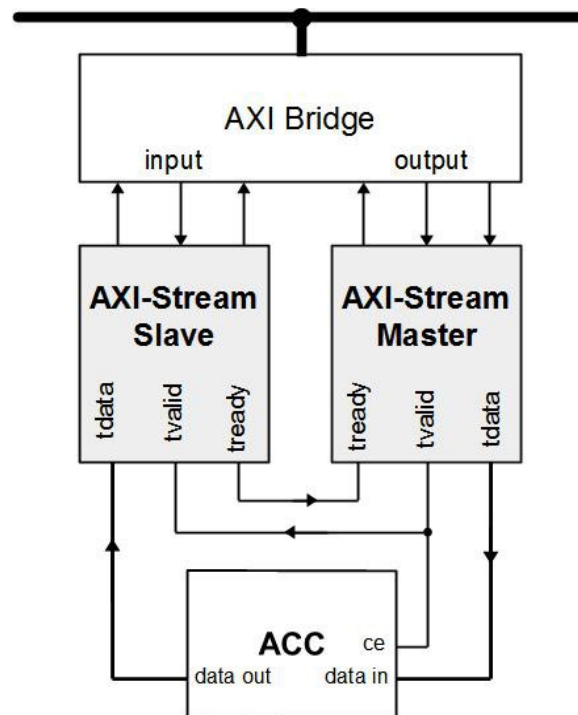

Figure 4
AXI-Stream allows designer for simple connection of the pipelined accelerator to the microprocessor system. In the scenario, the accelerator reads the stream of input data from AXI-Stream Master *tdata* and sends results to the AXI-Stream Slave *tdata*. The connection of the accelerator to AXI-Stream channel is mostly simplified if the iteration interval (II) of the accelerator is one clock cycle (*i.e.* it accepts the input data element every clock cycle). The solution is presented in Figure 4.